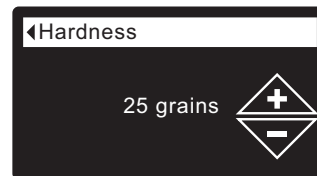

FIG. 49
5. Press the SELECT (O) button to display the Hardness screen (See Figure 49).